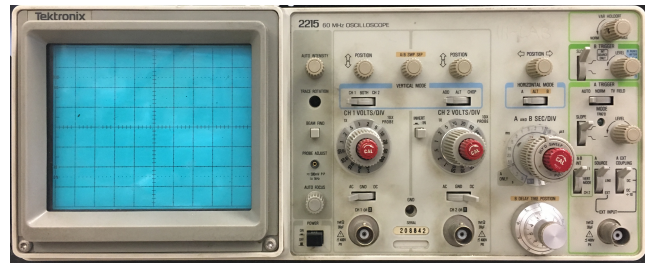

Figure 7: Tektronix 2215 Oscilloscope
3. **Tektronix 2215** Oscilloscope (See **Figure 7**)